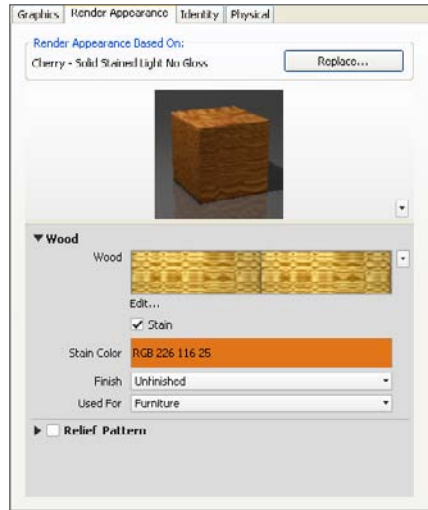

Figure 9.26
- On the right side of the dialog box, click the Render Appearance tab (Figure 9.26). You are not going to make any changes at this time on the Graphics tab.